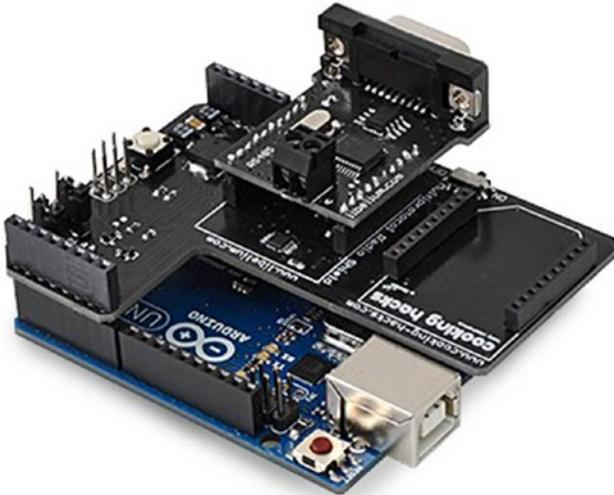

Figure 7-4. An RS485 and Modbus-enabled Arduino setup. Image courtesy of Libelium (<https://www.cooking-hacks.com>)
1. Connect the **Multiprotocol Radio Shield** to the Arduino UNO using wire-wrap headers (Figure 7-4).
2. Connect the RS485/Modbus module for Arduino and Raspberry Pi to **SOCKET 1** (Figure 7-4).